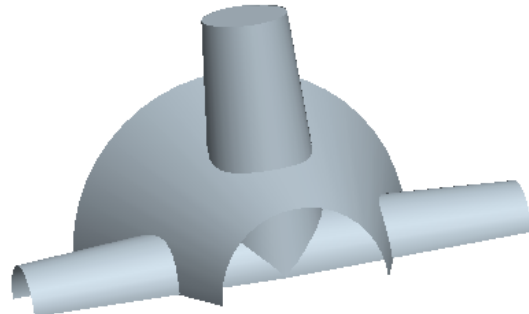

Figure 13-78 Model after creating the fourth blend surface
10. Select the **TOP** datum plane. Choose **OK** from the **SURFACE** dialog box. The blend surface is extruded up to the selected datum plane as shown in Figure 13-78.